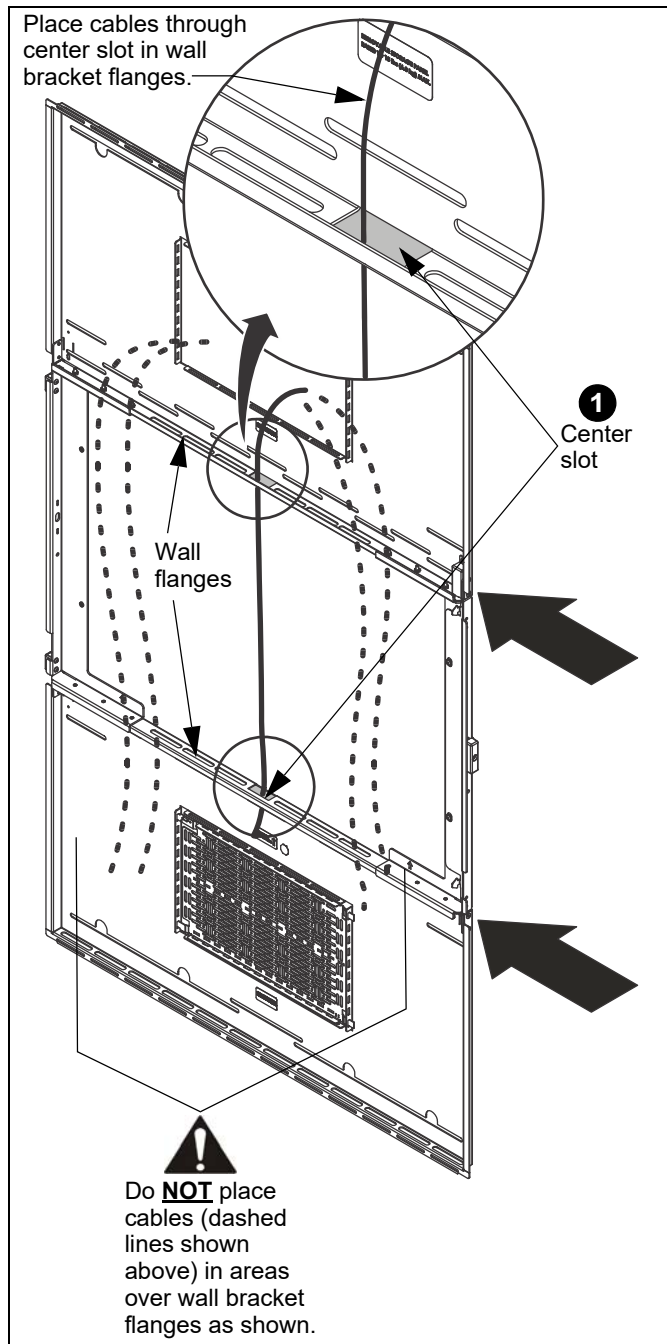

Figure 11
1. Cables may be placed through the center slot in the wall bracket flanges. (See Figure 11)
IMPORTANT ! : Cables should not be placed **OVER** the wall bracket flanges. Damage to cables may occur. (See Figure 11)